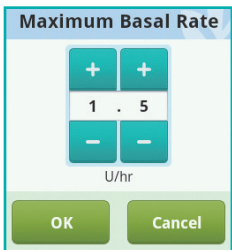

Figure 18
a) Choose the Maximum Basal Rate setting to open a dialog box (Figure 18) that can be used to input the maximum basal rate. Use the “+” and “-” buttons to select